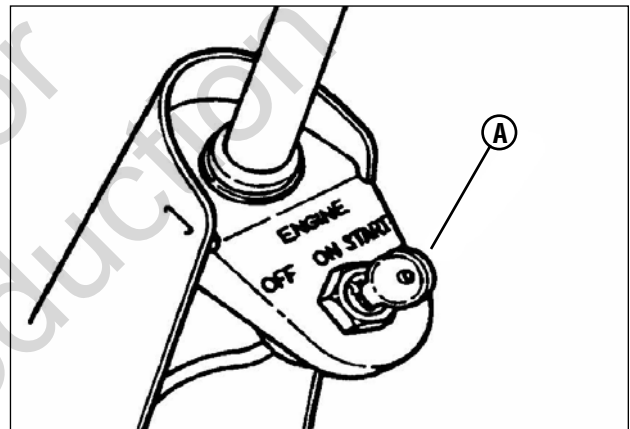

Figure 9: Key
- Turn the key (**A, Figure 9**) to the “ON” position.